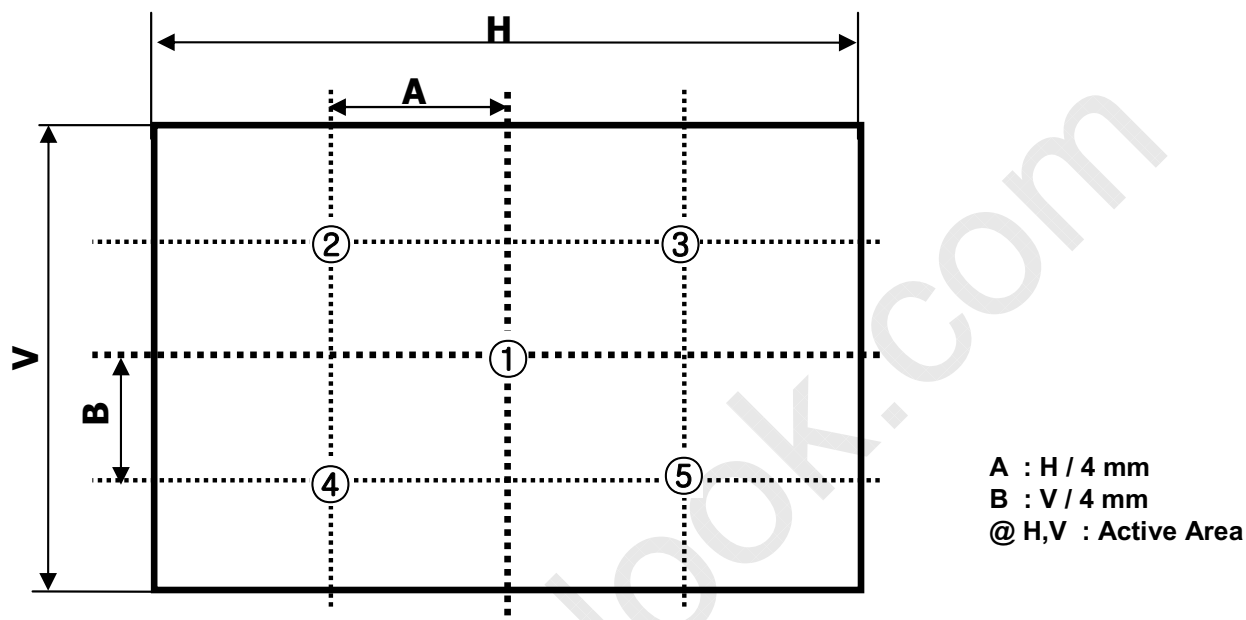

FIG. 2 5 Points for Luminance Measure
- Surface luminance is determined after the unit has been 'ON' and 60min after lighting the backlight in a dark environment at $25 \pm 2^\circ\text{C}$. Surface luminance is the luminance value at center 1-point across the LCD surface 50cm from the surface with all pixels displaying white. For more information see the FIG. 2.
For more information, see the FIG. 2.